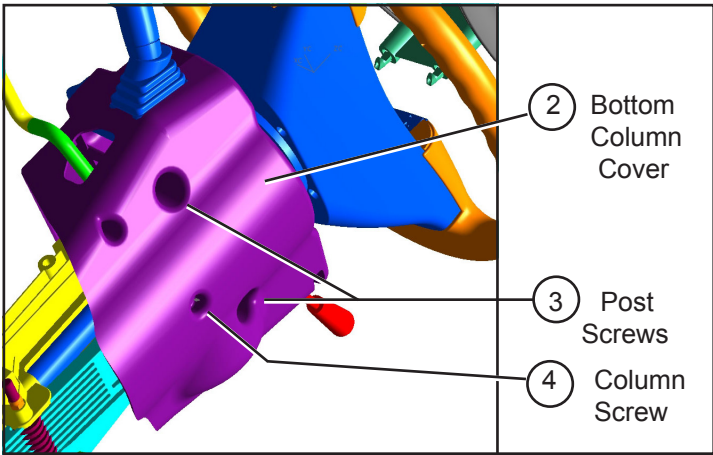

Figure 2 Removing Column and Post Screws
1. As shown in Figure 2, remove the steering column covers (1 & 2) by removing the two post screws (3) and one column screw (4) with a Torx® driver. Separate the bottom and top column covers. Remove the wiring harness that is attached to the bottom column cover.